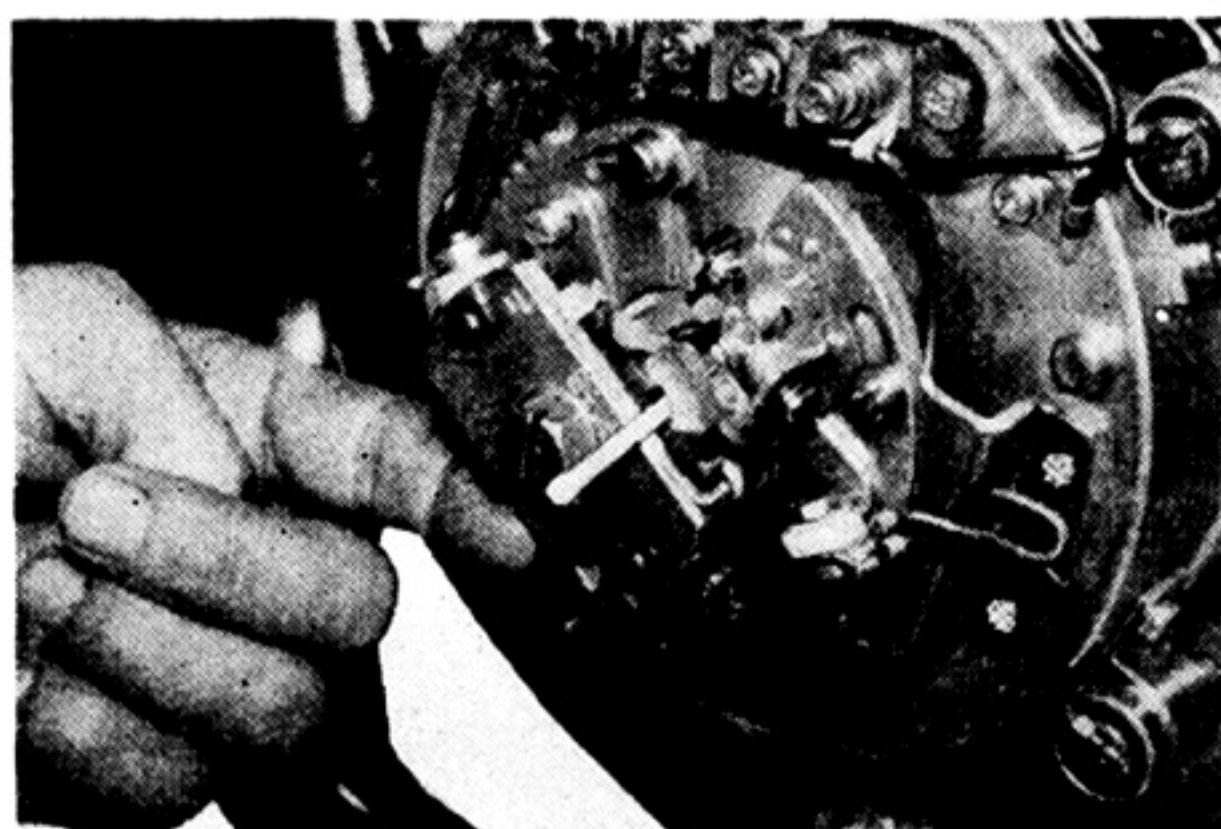

Fig. 5-4-17
- 7) Insert a matchwood into the governor, and open the governor. Then loosen the breaker plate holding screw, and turn the breaker plate. When the points open (the testing lamp lights up), set the screw. (Do not fully loosen the breaker plate holding screw, because the breaker plate tends to shift its position.) Turning the breaker plate in the normal turning direction causes ignition timing to delay, and turning it in the opposite direction advances ignition timing. (Figs. 5-4-17 and 18)